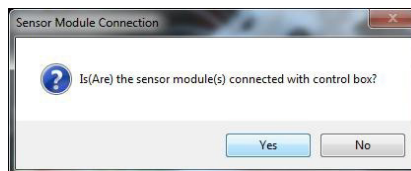

Figure 24. Select RS485 from the drop down menu
2. Next, click “No” button as in Figure 24.